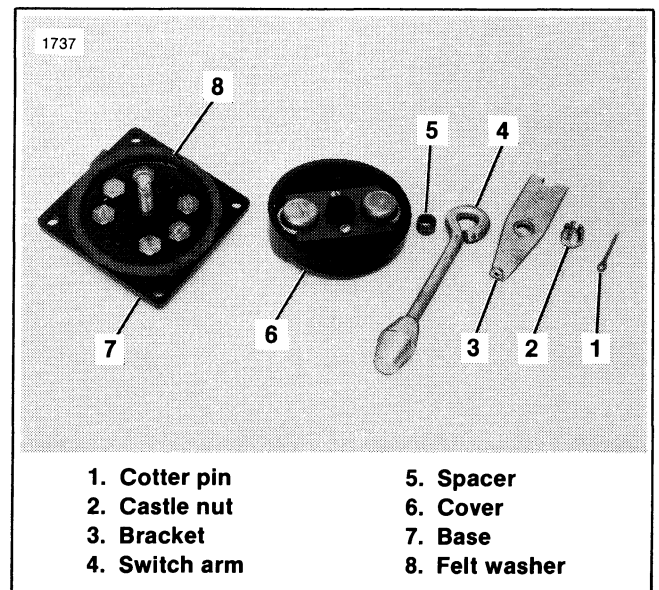

Figure 8-13. Reversing Switch Assembly
(Figure 8-13)
1. See Figure 8-13. Install cover (6) on to base (7). Install spacer (5), arm (4), bracket (3), castle nut (2) and cotter pin (1). The castle nut (2) should be tightened till cover is touching the felt washer (8).